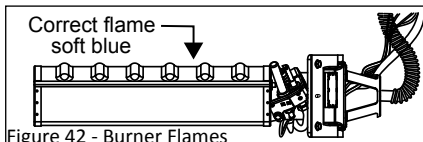

Figure 42 - Burner Flames
- Inspect the burner flames through the viewport and compare them to Figure 42. The flames should be very small with a blue haze and small amount of yellow or orange at the edges. After several minutes of operation, the burner screen may glow red. If large flames are observed at any time, shut-off the unit and call a qualified person.